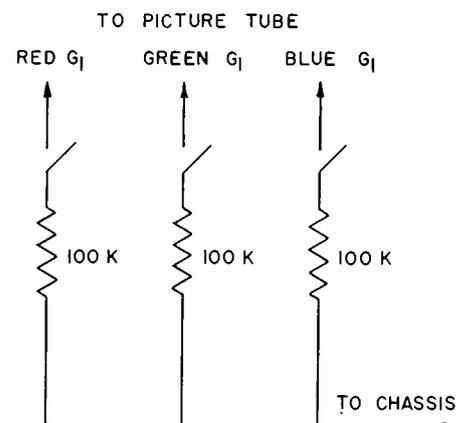

Figure 1—Simple switching circuit for control of electron guns.
Step 2—Color Purity. The deflection yoke should be moved back on the neck toward the convergence assembly until neck shadow appears. At this point it is necessary to have only the red gun operating. The green and blue guns can be biased off by shunting 100,000 ohms between the No. 1 grids of the picture tube and the chassis. Figure 1 shows a suitable switching circuit that can be used to control any gun.